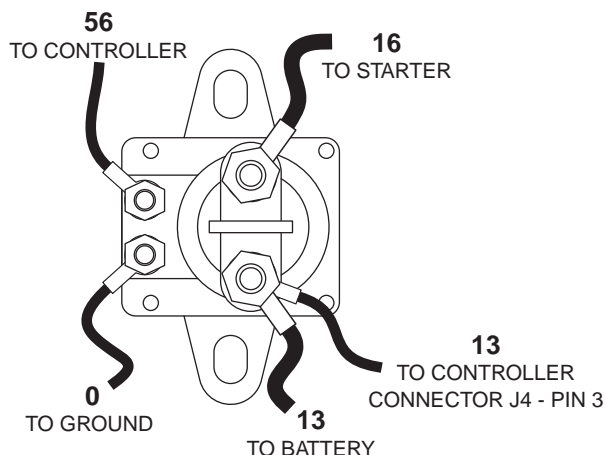

Figure 87. The Starter Contactor (Single Cylinder Units)
The Starter Contactor (SC) is located in the engine compartment and is mounted against the firewall. The SC provides the electrical connection to safely engage the starter. See Figure 87.